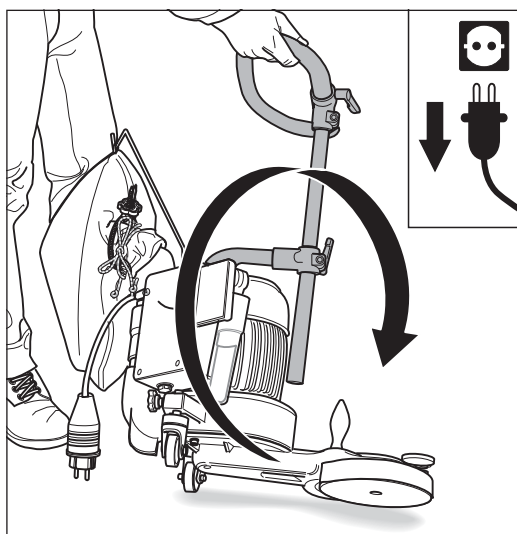
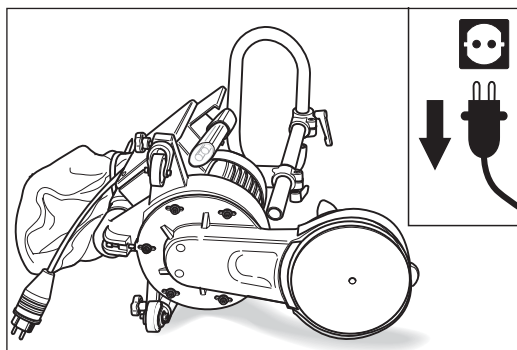

Fig. 45 Tilt the UNICO over to the **left-hand** side and set it down carefully.
Fig. 46 Place the UNICO down on the **left-hand** side only.
- 2 Place the UNICO on its side by grabbing the machine by the handlebar on the right-hand side and then tilt the machine over to the **left-hand** side (fig. 45) and set it down carefully. **Always** set the UNICO down on the **left-hand** side (fig. 46)! This will prevent damage to the floor.